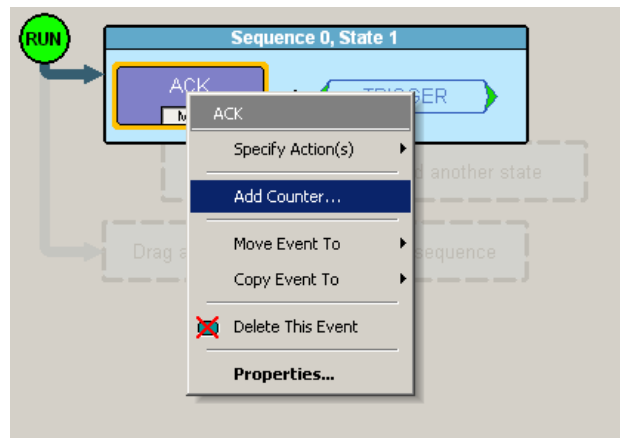

Figure 7.22 Example 2: Adding a Counter
Step 3 From the Event pop-up menu, select the **Add Counter** option (Figure 7.22).